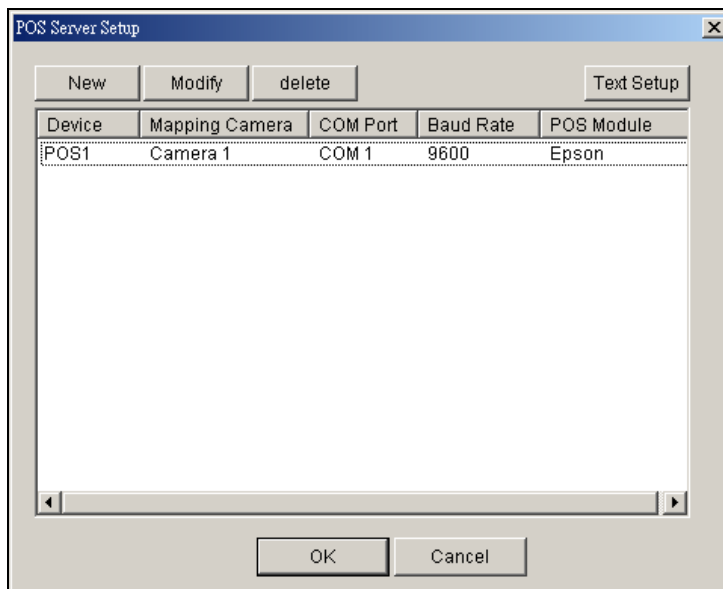

Figure 3-2 POS Server Setup
1. Open the POS Device Setup window. Refer to Figure 3-2.